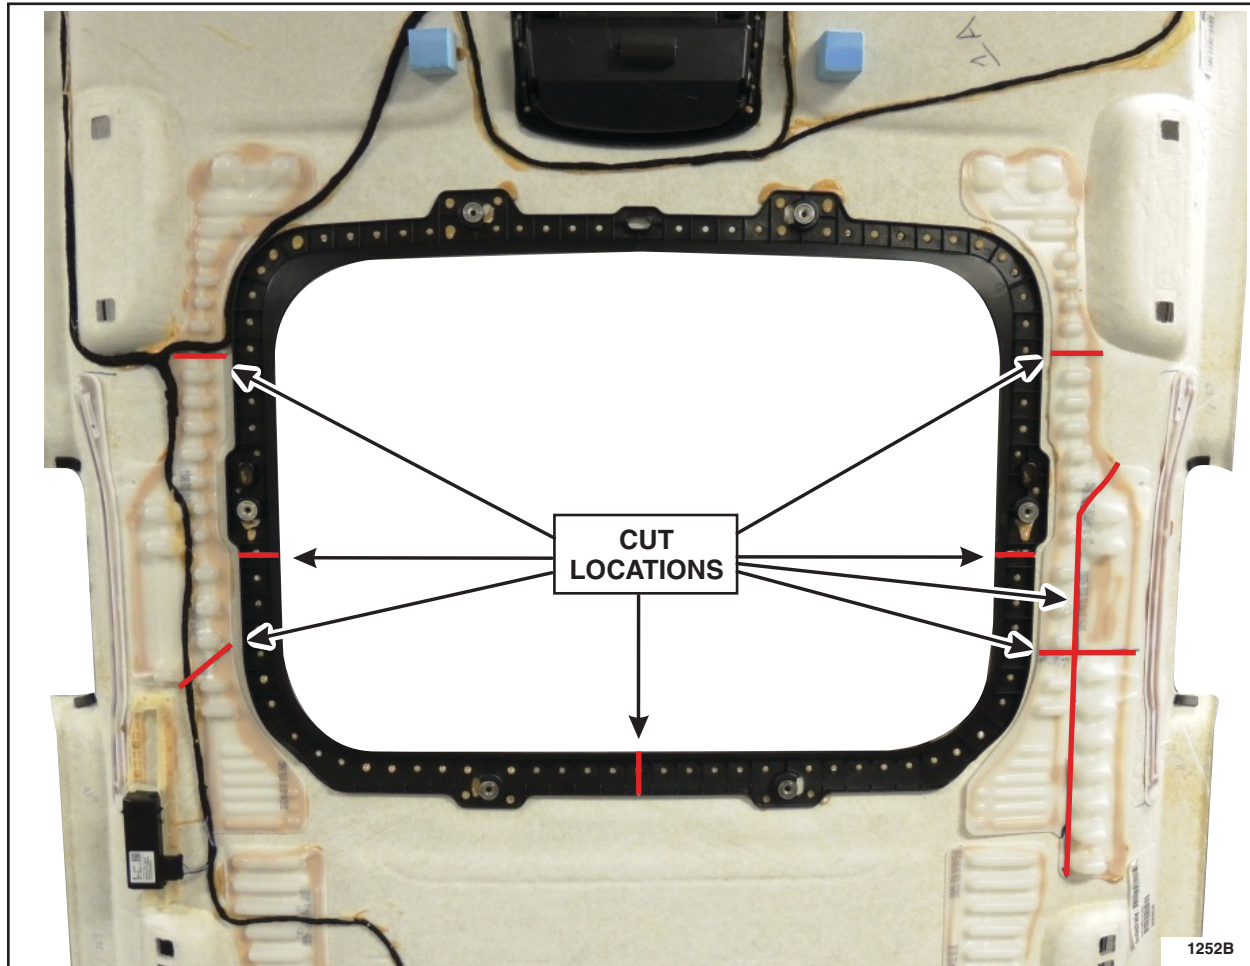

FIGURE 23
1. Mark cut locations on the headliner reinforcement material. See Figure 23.